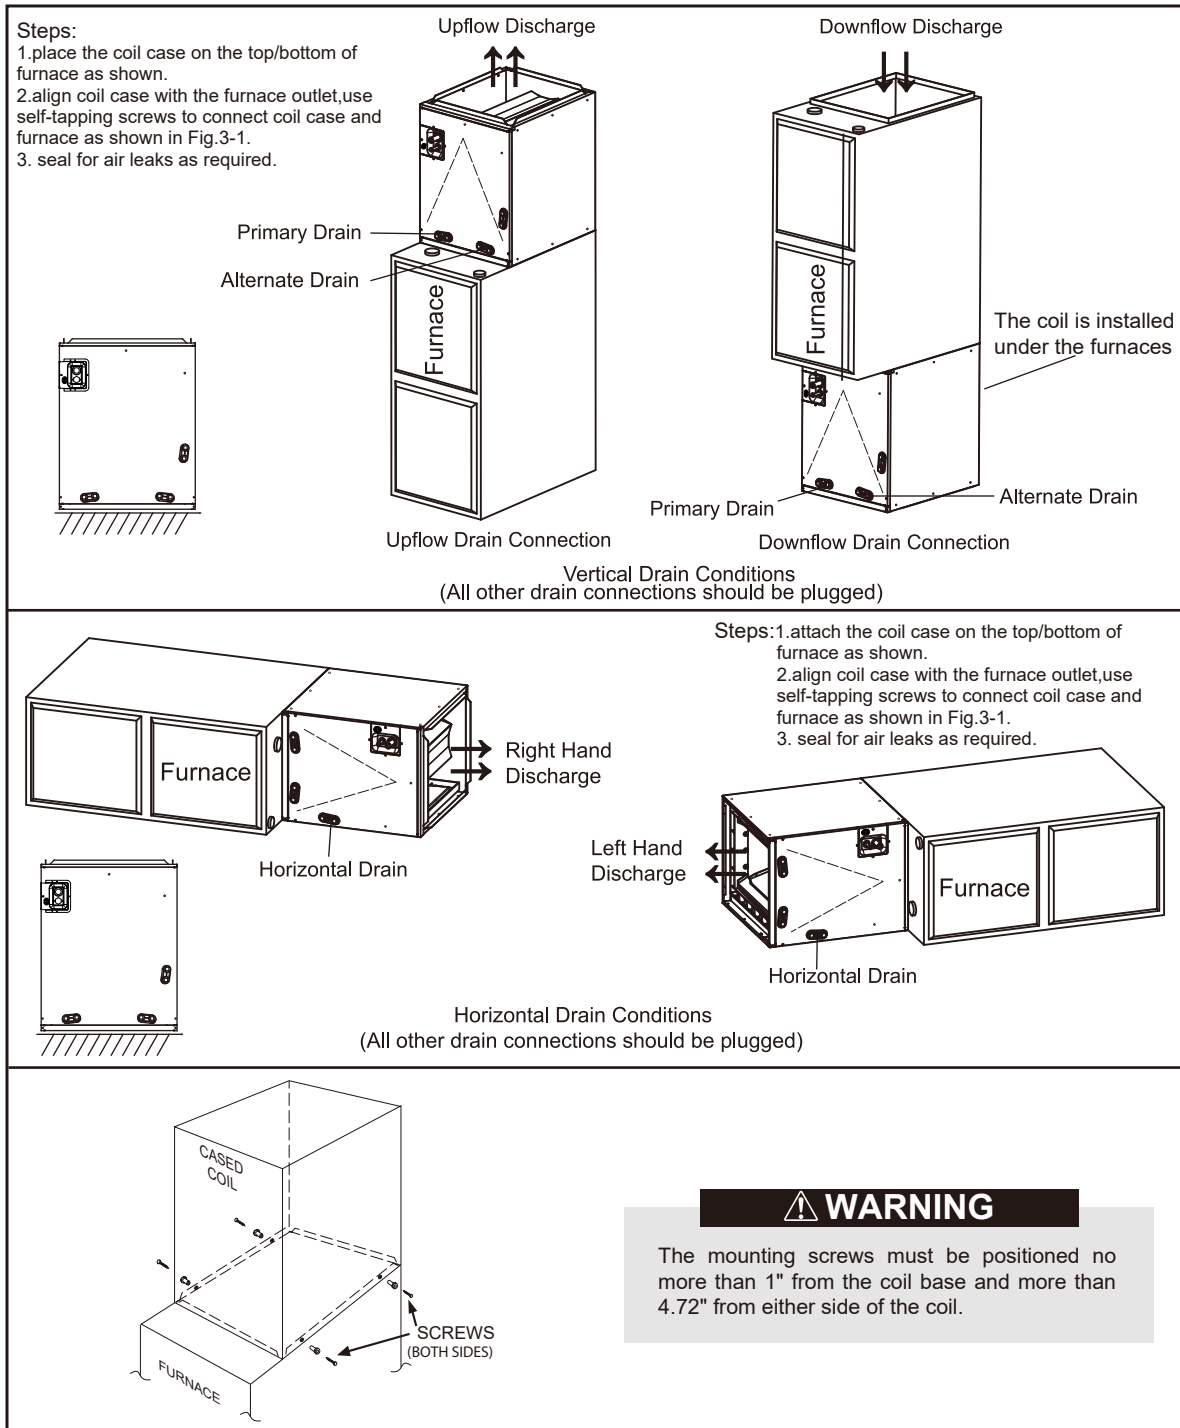

Fig. 3-1 INSTALLATION OF CASSED COIL
1. See Fig. 3-1 for coil installation and drain connection.
- C. Ensure that the coil is leveled well and seal the gap between coil and furnace. See Fig. 3-1. In case that coil and furnace sizes are not matched, use proper size of sheet metal or other material to fill the gap and seal the gap to prevent air leak.